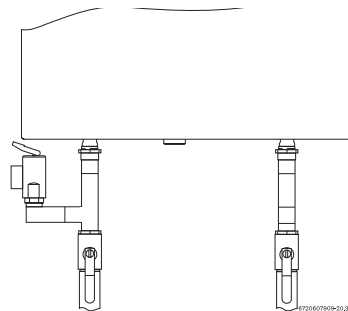

Fig. 30 Plumbing Connections and Pressure Relief Valve
- ▶ Full port shut off valves should be installed on both the cold water supply and hot water outlet lines to facilitate servicing the heater (see Fig. 30).
The listed pressure relief valve supplied with the heater must be installed at the time of installation. No valve is to be placed between the PRV and the heater. No reducing coupling or other restriction may be installed in the discharge line. The discharge line must be a minimum of 4" above a drain and installed such that it allows complete drainage of both the PRV and the line. The location of the PRV must be readily accessible for servicing or replacement, and be mounted as close to the water heater as possible. See Fig. 30. To install the PRV, a suitable fitting connected to an extension on a "T" fitting can be sweated to the hot water line. Support all piping.